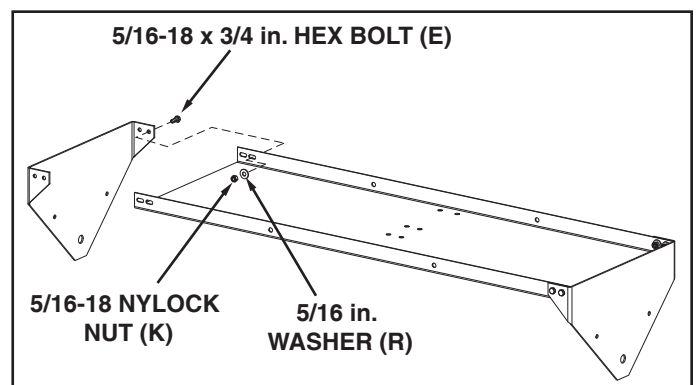

FIGURE 7
- Loosely fasten both end plates to the tray using eight 5/16 x 3/4 in. hex bolts, eight 5/16 in. flat washers and eight 5/16-18 nylock hex nuts. **Do not tighten at this time.** See figure 7.